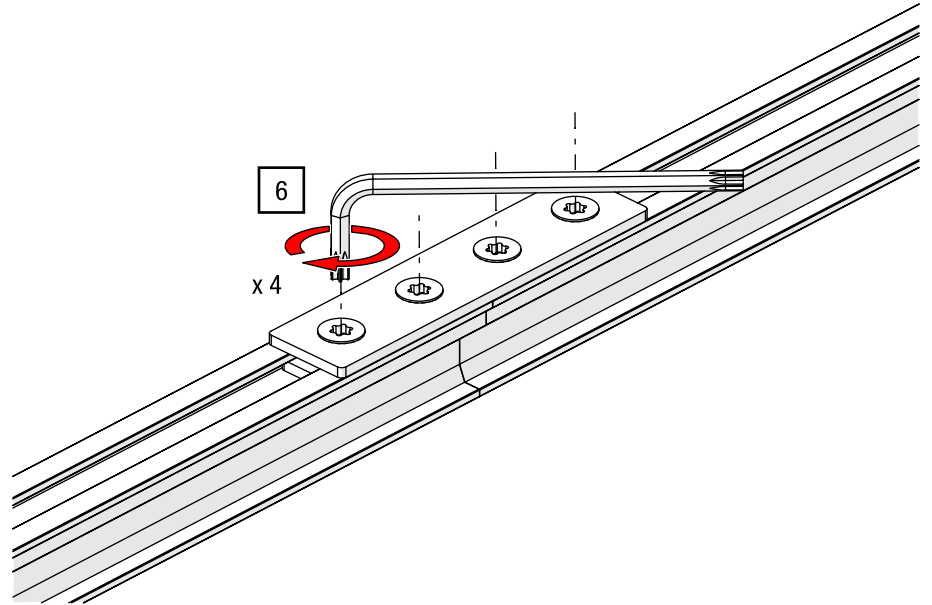

Fig. 47: Track splice – Tighten countersunk screws
6. Tighten the four M8 countersunk screws from the inside to the outside using a TORX®-key T40 and a torque of 27 Nm (see Fig. 47).